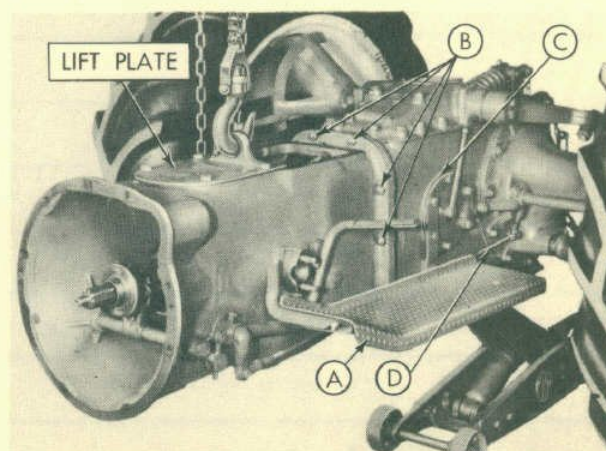

Fig. 11
- Step 2—Attach the lift plate to the transmission housing as shown in Figure 11.
- Step 4—Place a jack under the center housing as shown in Figure 11.
- Step 5—Remove the step plates (A-Figure 11). (Right and left sides.)
- Step 6—Remove the brake rod (D-Figure 11).
- Step 7—Remove the left side inspection plate and gasket (C-Figure 11).
- Step 9—Remove the bolts (B-Figure 11) that hold the transmission housing to the center housing.